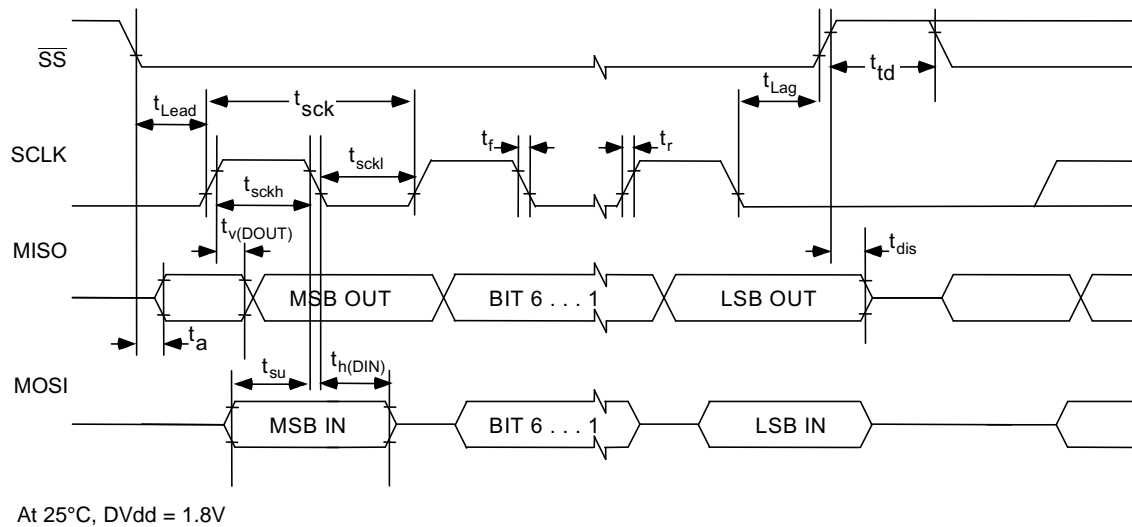

Figure 6. SPI Interface Timing Diagram
8.16 SPI Interface Timing (See Figure 6)